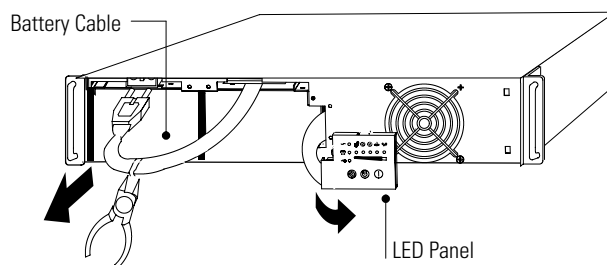

Figure 42. Disconnecting the Battery Cable
2. Push down on and unsnap the LED panel (see Figure 42).